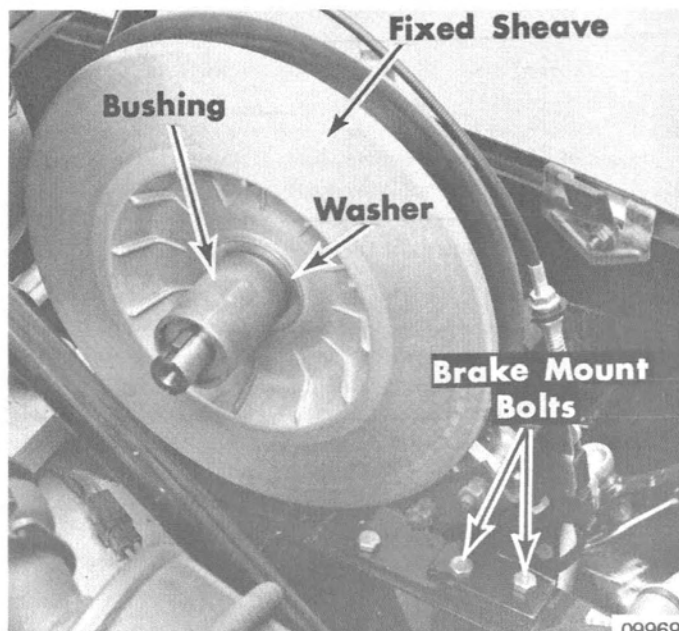
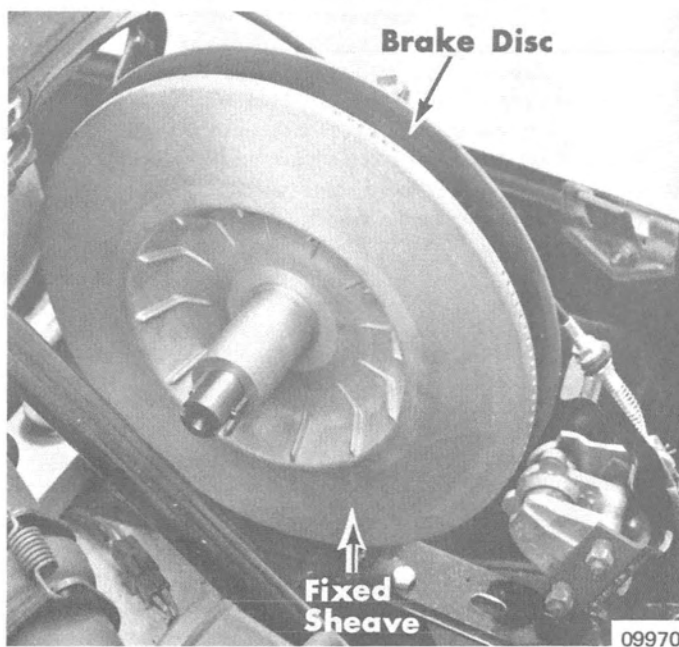

Figure 4. Mercury Driven Sheave
Figure 5. Mercury Driven Sheave
5. Pull bushing and spacer washer from spindle of fixed half of sheave. (Figure 4)
6. Remove bolts and locknuts (Figure 4), which secure brake assembly to front crossmember, then pull brake assembly off brake disc. (Figure 5)
7. Pull fixed sheave half with brake disc (Figure 5) from jackshaft.
5. Inspect driven sheave bushing (Figure 4) for wear by checking fit between bushing and movable half of sheave. Replace bushing if excessively worn.
2. If removed, reinstall both jackshaft keys in position in keyways of jackshaft. (Figure 5)
3. Align keyways of fixed sheave half with jackshaft keys and reinstall fixed sheave on jackshaft. (Figure 5)
4. Reinstall brake assembly in position around brake disc and secure brake to cross-member with bolts and locknuts. (Figure 4) Tighten bolts securely and check operation of brake.
**IMPORTANT:** Spacer washer (Figure 4) is installed in driven sheave to maintain a pre-determined drive belt tension. If drive belt is too loose, it can be tightened by removing spacer washer from driven sheave. If drive belt is too tight, install this spacer washer (if not already installed) to loosen drive belt tension. A malfunctioning drive clutch (binding or sticking components) could cause a tight drive belt and must be repaired before installing a spacer washer in driven sheave. **DO NOT** install more than one (1) spacer washer in driven sheave.